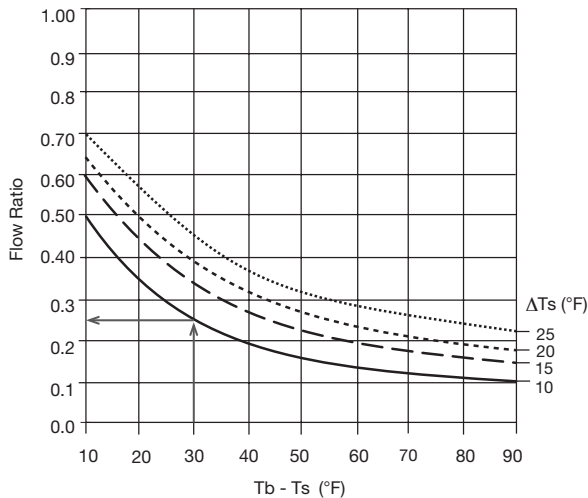

Figure 2
3. Compute $T_b - T_s$. Look up the flow ratio on Figure 2.